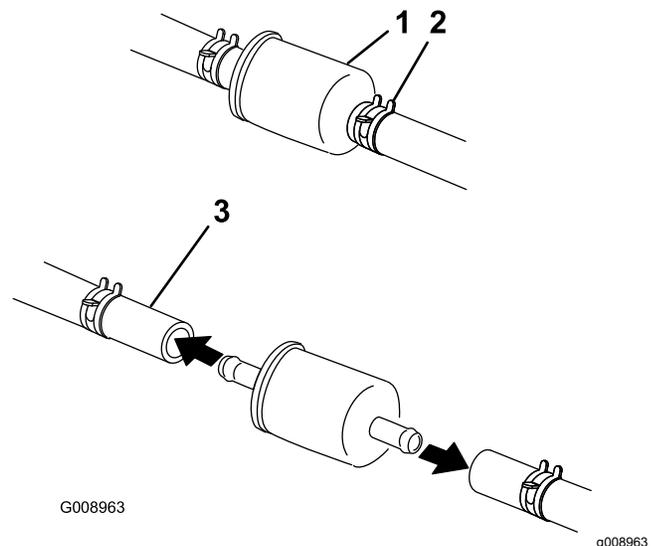

Figure 65
5. Replace the fuel filter (Figure 65).